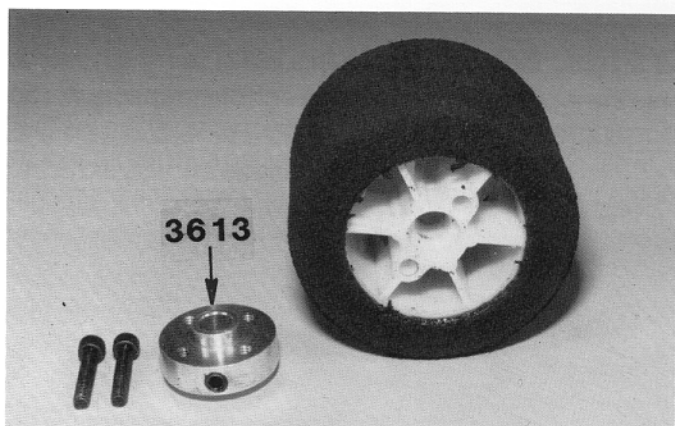

**Fig. 68**
□ **Figs. 68 & 69**—Slip a #8321 aluminum spacer onto the axle so that the stepped end of the spacer will be touching the #897 ball bearing in the rear pod. Slip the rear axle assembly into the rear pod, making sure the spur gear clears the pinion gear.